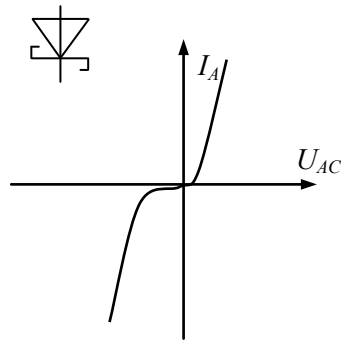

Fig. 1.14
**Schottky diode.** As the frequency increases, the ordinary diode reaches a point where it cannot turn off fast enough to prevent noticeable current during the reverse half cycle. A special-purpose high frequency diode with no depletion layer, no *pn* junction, and extremely short reverse recovery time is called a *Schottky diode* or *reverse diode* (Fig. 1.14).